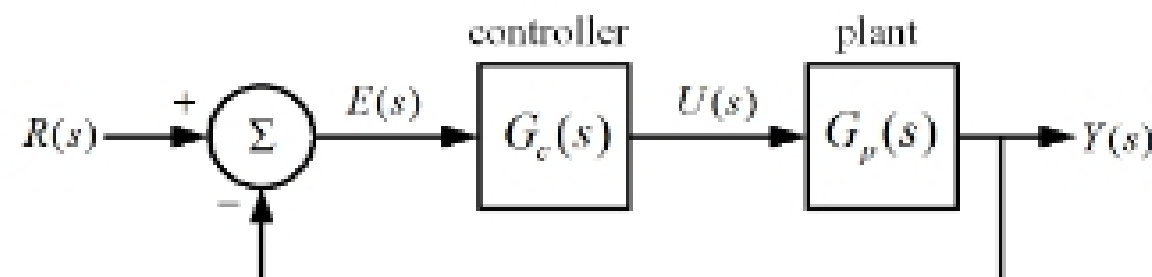

Figure 2: Closed-loop system with cascade compensation.
The closed-loop system in Figure 2 contains a plant with transfer function
4. (3 points) The **gain margin** GM is the number of decibels which must be added to the magnitude curve in order to make $|G_c(j\omega_{pc})G_p(j\omega_{pc})| = 0$ dB. With $K = 1$, determine the gain margin of the system shown in Figure 2.
5. (2 points) Verify your answers in parts (4) and (5) using the MATLAB command `margin(num,den)`, where `num` and `den` are the numerator and denominator polynomials of $G_c(s)G_p(s)$, respectively.
6. (2 points) Using the gain margin measured in part (5), determine the largest positive value of the gain K for which the system is closed-loop stable. Compare your result to that obtained using the Routh-Hurwitz criterion.